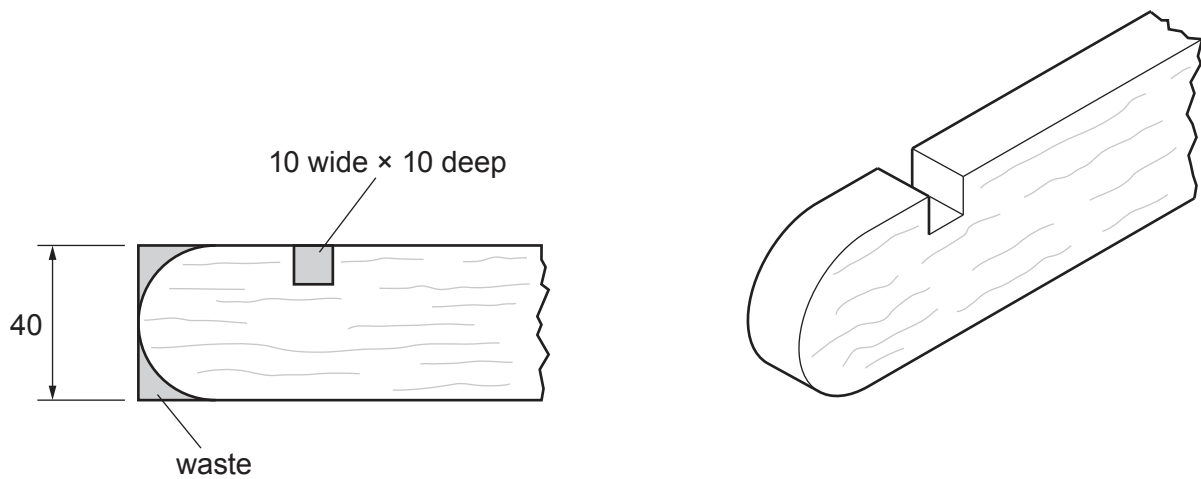

Fig. 11.3
- (c) Fig. 11.3 shows details of one end of the arm. The ends of the arm are rounded and there are slots for the string holding the pans to hook over.